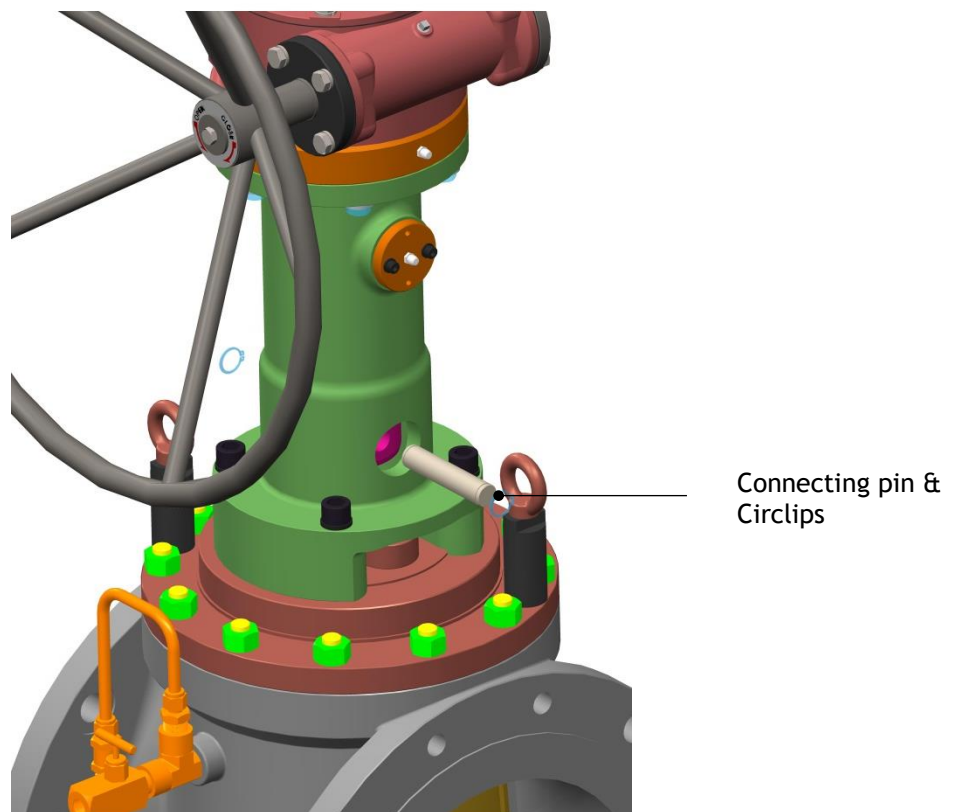

Fig. 5 Disassembly of Operator Assembly
- Place the entire operator assembly in a secured place as shown in Fig. 5.